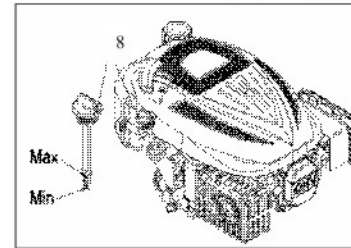

Fig. 7
2. Remove the oil filler cap/dipstick (8) and wipe it clean.
3. Insert the oil filler cap/dipstick (8) into the oil filler neck as shown, but do not screw it in, then remove it to check the oil level.
5. Reinstall the oil filler cap/dipstick (8). (See Fig. 7)